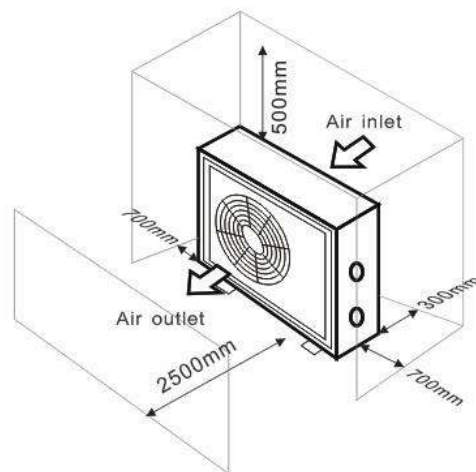

Figure 1
4. For easier and better maintenance and troubleshooting, no obstacles around the unit should be closer than 0.5m. And no obstructions within 2.5m vertically from the unit for air ventilation(Fig.1).